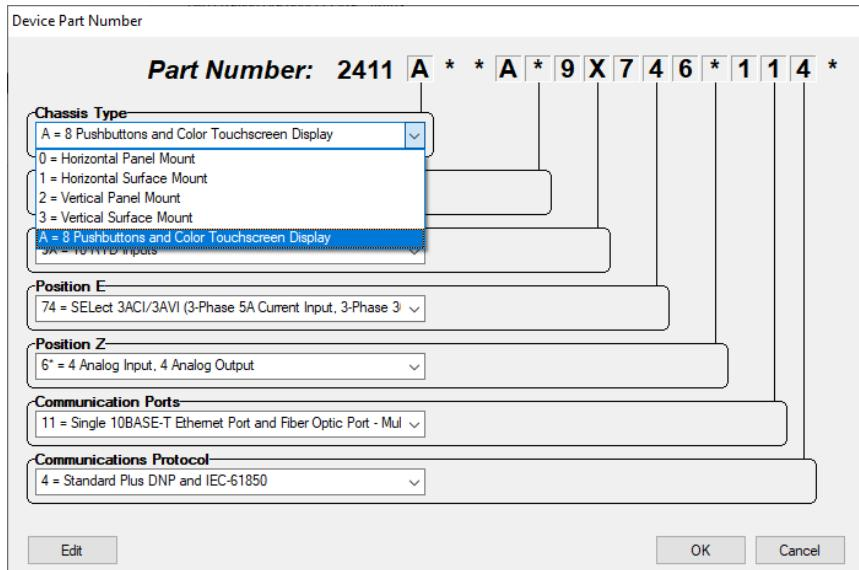
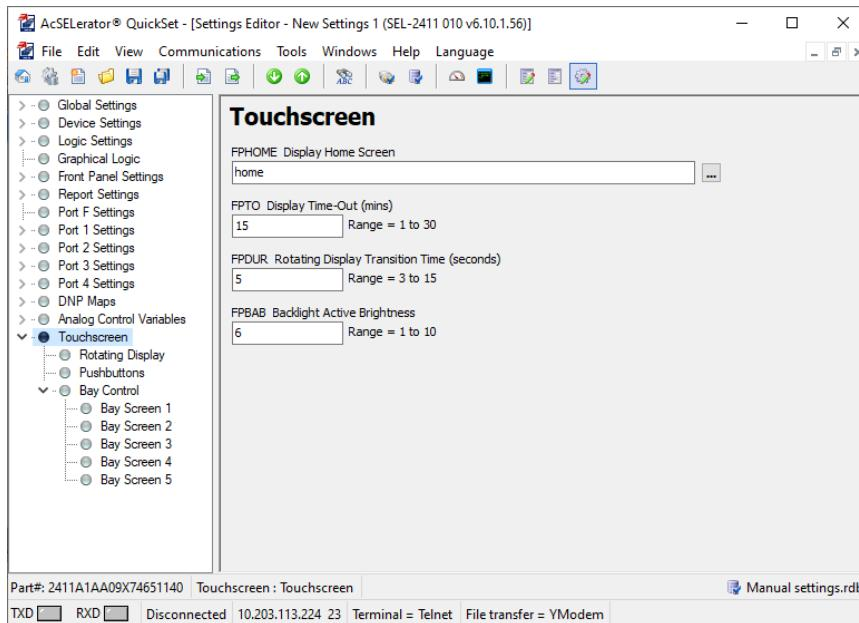
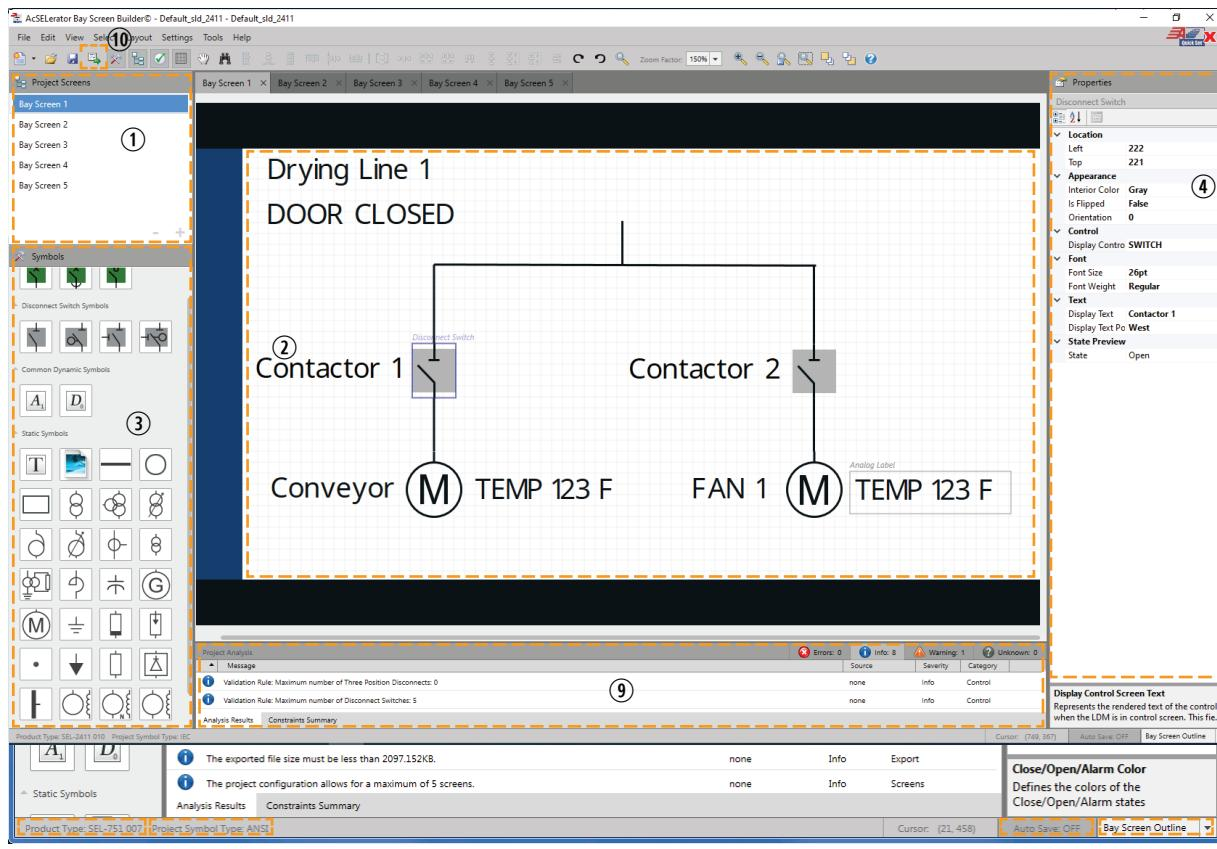

Figure 8.67 QuickSet Front-Panel Options
Figure 8.68 QuickSet Touchscreen Settings
Figure 8.69 Layout of Bay Screen Builder
QuickSet and Bay Screen Builder provide user-friendly interfaces to set the touchscreen settings. The touchscreen settings are not available for setting via ASCII terminal, unlike the other device settings. The touchscreen settings are only available if the device part number is configured with eight pushbuttons and the touchscreen display under the Front-Panel Options dropdown menu is as shown in *Figure 8.67*. *Figure 8.68* shows the Touchscreen settings in QuickSet.
Several of the settings identified in *Table 8.26* are available for you to set depending on the symbols chosen for your single-line diagram. *Figure 8.69* shows the layout of Bay Screen Builder and identifies different menus, panes, and information.
- ④ **Properties Pane:** Displays the properties of a selected symbol. Edit the symbol properties as needed for your application. For instance, the breaker color sequence property identified in *Table 8.23* can be set via the appearance property of the breaker symbol. Bay Screen Builder supports UTF-8 character encoding. Refer to the Product Literature CD for a complete list of UTF-8 characters that can be rendered on the touchscreen display.
- ⑤ **Product Type:** Displays the name of the QuickSet driver version of the product associated with the selected project (e.g., SEL-2411 010, as shown in *Figure 8.69*). Select the product type in Bay Screen Builder when you create a new project independent of QuickSet. View Product Type though **Settings > Project Settings**. If a project is edited via QuickSet, Bay Screen Builder inherits the product type from the QuickSet settings file. You can export the project file with a different QuickSet driver version using **File > Export Package As**.
- ⑥ **Project Symbol Type:** Displays the symbol type (IEC or ANSI) associated with the selected project as shown in *Figure 8.69*. Select the symbol type when you create a new project. If a project is edited via QuickSet, the ANSI symbol type is selected by default.
- ⑦ **Auto Save:** Provides a shortcut for changing the auto save setting for the application. Enable **Auto Save** to allow Bay Screen Builder to automatically save your project periodically. Your auto save setting preference is saved when you exit the application and is applied the next time you launch Bay Screen Builder. You can also set **Auto Save** through **Settings > Application Settings > File Handling**.
- ⑧ **Bay Screen Outline:** Displays the dropdown list of symbols on the presently open screen. Select a symbol from the list to make it active. The bay screen outline provides an alternate way to select the symbols and is most useful in cases where symbols are crowded or stacked.
- ⑨ **Project Analysis Pane:** Displays troubleshooting information/messages about the project (Errors, Info, Warning, Unknown). The project analysis pane supports two tabs: Analysis Results and Constraints Summary, as shown in *Figure 8.68* and *Figure 8.69*, respectively.